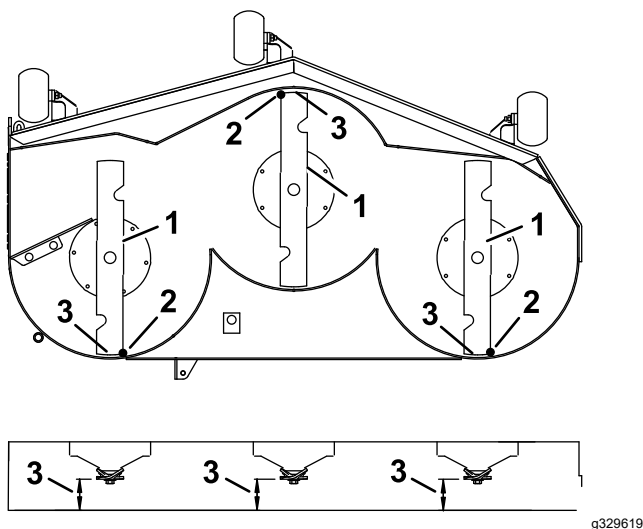

Figure 78
7. Check the front-to-rear blade level (Figure 78). Ensure the front blade tip is lower than the rear blade tip as shown in the block height and rake table. If adjustment is needed, continue with this procedure.